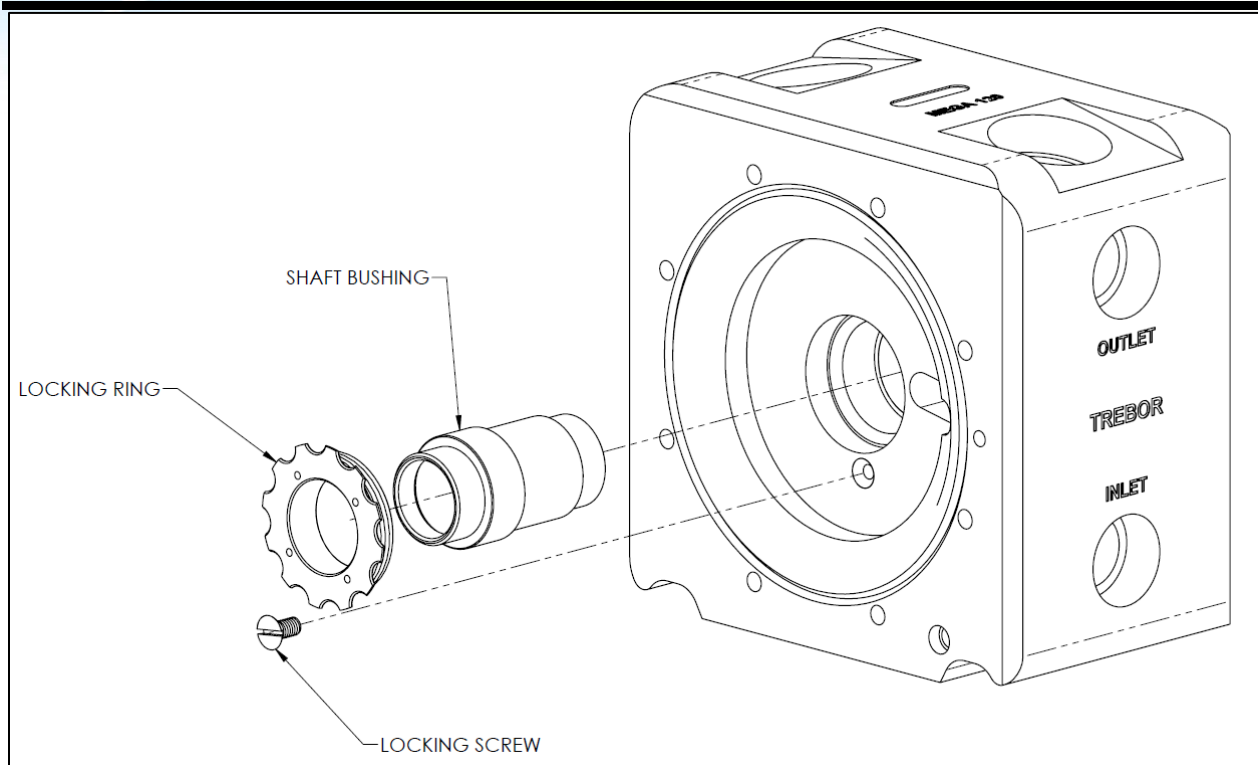

Figure 4-9
- Install shaft bushing per Figure 4-9.